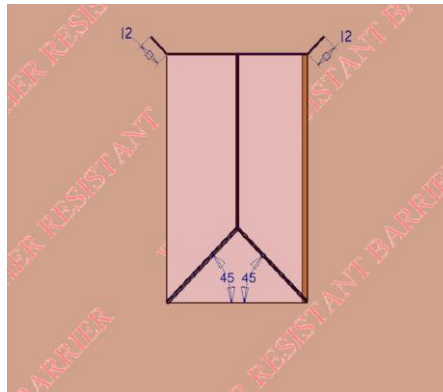

Fig. 2
- E. Cut the weather-resistant barrier (WRB) in a "Modified I" pattern shown below. (Fig. 2)